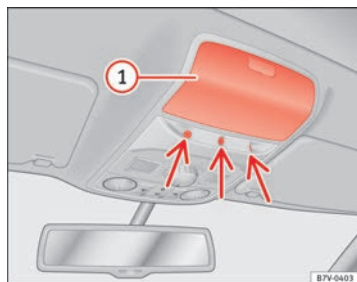

Fig. 48 On the roof console: interior monitoring sensors.
Close the storage compartment ⇒ fig. 48 ① on the roof console otherwise the interior monitoring function (arrow) may not work without restrictions.